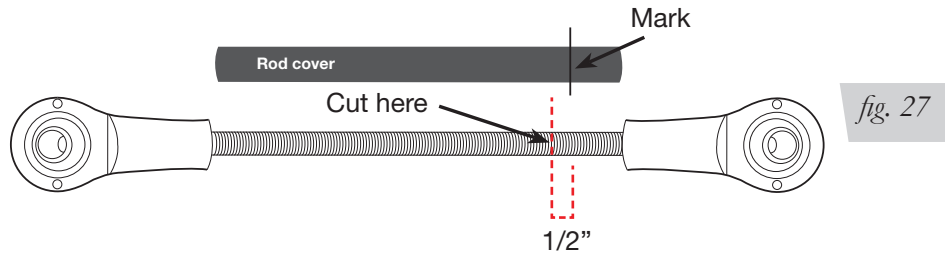

fig. 27
- Remove the rod linkage from the sensor arm and measure 1/2" back from the mark. This will show where to cut the rod (fig. 27).